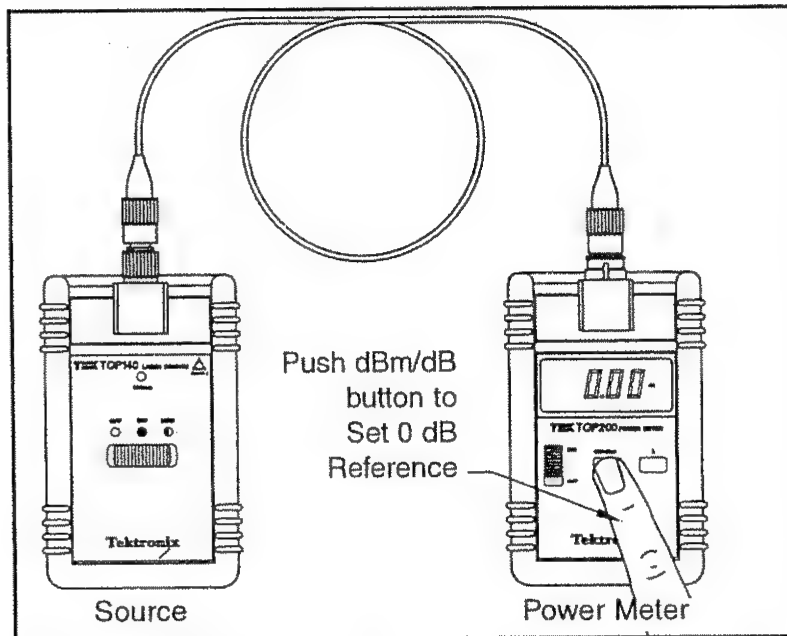

Fig 4.2 Establishing a Reference Measurement
- B) Switch the source to continuous (CW) light output and the power meter to the appropriate wavelength (using button) and dBm units. Note the dBm output of the reference cable should be within acceptable limits.
- C) To store this reference level, press the [dBm/dB] button (for about 2-3 seconds until the little "r" annunciator appears on the LCD display) and the display reads 0.00dB. See Figure 4.2